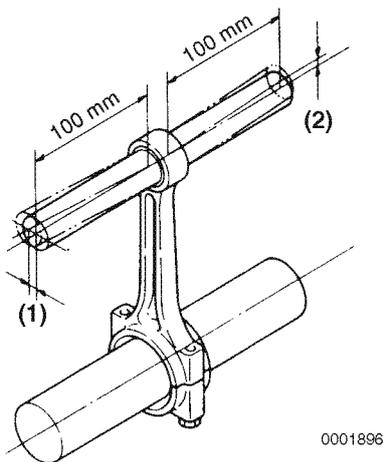
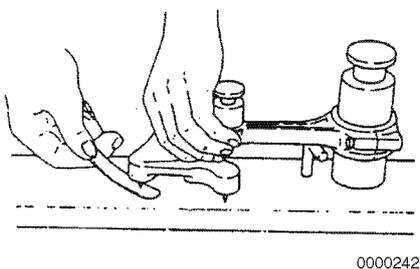

Figure 6-70
Figure 6-71
2. Measure the connecting rod twist (Figure 6-70, (1)) and bend (Figure 6-70, (2)) using a connecting rod alignment tool (Figure 6-71). Record the measurements. See *Connecting Rod* on page 6-11 for specifications.